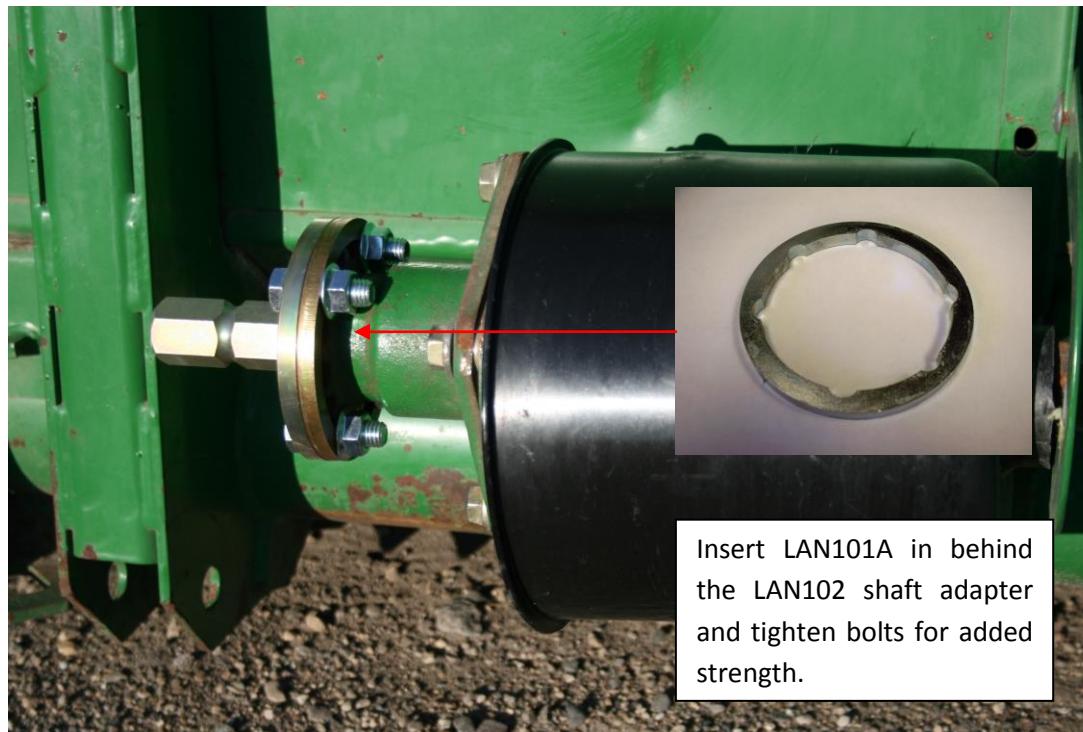

Figure 1
Refer to *Figure 1*
- 3.3 Reinstall Hex Shaft Adapter (LAN102) and tighten. (See Figure 1)